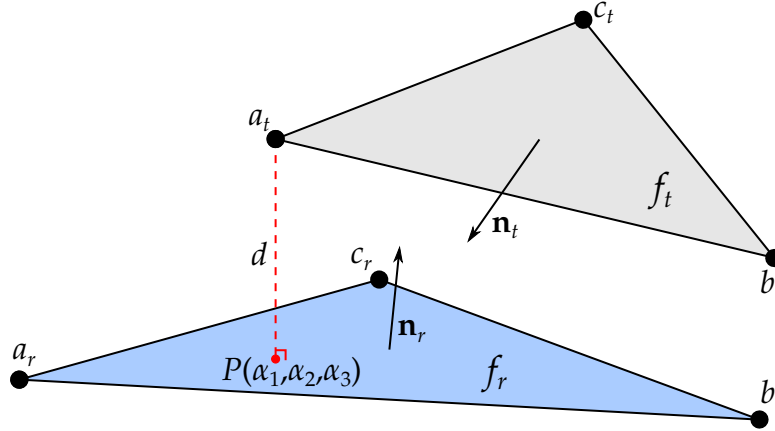

Figure 0-1. Contact detection conditions between two faces.
In these remarks, we discuss the conditions for contact detection. For reference, Figure 0-1 illustrates which geometric values help determine contact. In this figure and discussion, f_r is a face of the reference surface, and f_t is a face of the tracked surface. Contact is detected when *all of the following three conditions are satisfied*:
Here $\mathbf{n}_r$ and $\mathbf{n}_t$ are the normal vectors of faces f_r and f_t , respectively, and ε_1 is an input parameter. See Figure 0-1.
$(\alpha_1, \alpha_2, \alpha_3)$ are the local coordinates of point P (see Figure 0-1). P is the projection of point a_t on face f_r . ε_2 is an input parameter.
3. Contact condition 3 depends on the contact type. For either possible condition, let d be the distance between P and a_t (see Figure 0-1).